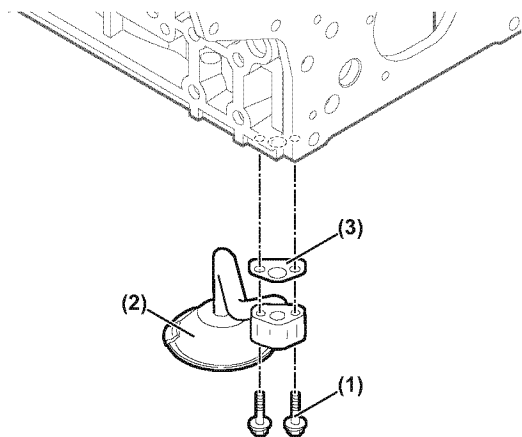

Figure 8-11
3. Remove bolts (**Figure 8-11, (1)**). Remove oil inlet pipe (**Figure 8-11, (2)**) and gasket (**Figure 8-11, (3)**).